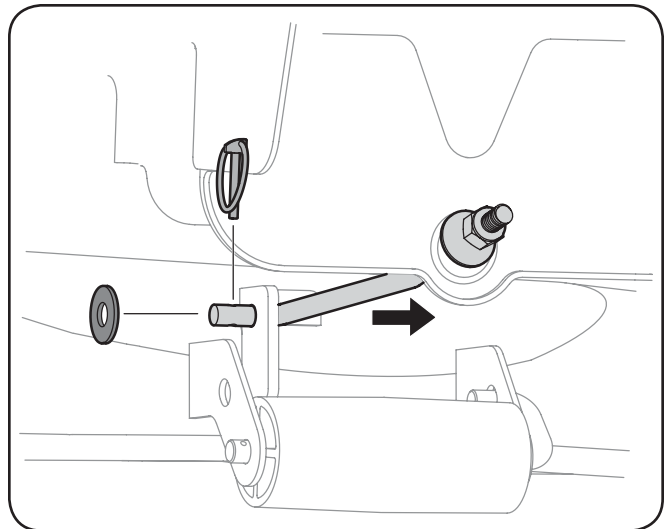

Figure 7-5
- Remove the cotter pin and flat washer from the end of the stabilizer rod and slide the stabilizer rod out of the hanger bracket on the deck, as shown in Fig. 7-5.